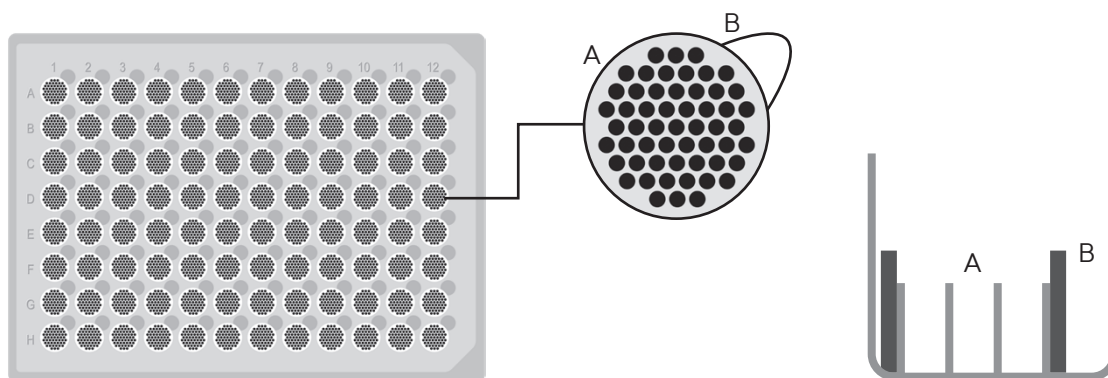

Figure 1
- a. With an aspirator and a Pasteur pipette, remove the liquid from the pipetting port first (Figure 1 B).
- b. Carefully access the cell seeding chamber and aspirate the remaining buffer until the microwell arrays become visible (full buffer removal is not necessary). To do so, slide your pipette tip on the side of the well until resistance is felt at the ring, and aspirate from there without touching the hydrogel (Figure 1 A).